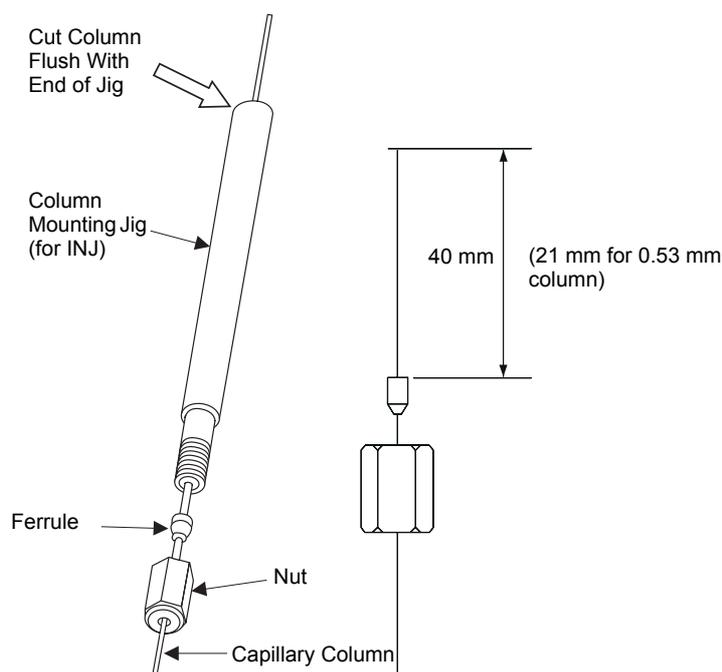

Figure 2.7 Using the Column Fitting Jig
- (1) Push the capillary column through the Vespel ferrule and nut. Refer to Figure 2.7 "Using the Column Fitting Jig".
- (2) Insert the end of the capillary column into the column fitting jig (P/N 225-11657-09), so that the capillary column protrudes about 1 cm from the end of the jig as indicated in Figure 2.7 "Using the Column Fitting Jig". Secure it by tightening the nut. Cut the protruding end of capillary column.